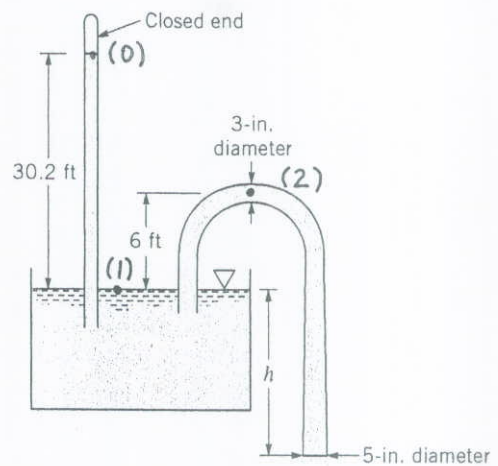

FIGURE P3.57
3.57 Water is siphoned from the tank shown in Fig. P3.57. The water barometer indicates a reading of 30.2 ft. Determine the maximum value of  $h$  allowed without cavitation occurring. Note that the pressure of the vapor in the closed end of the barometer equals the vapor pressure.